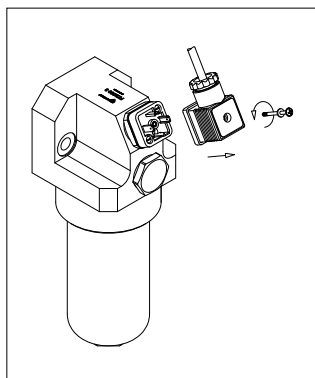

fig. 6
- (Fig. 6) Remove the connector of the differential indicator by unfastening the central screw (only for electrical indicators)
- For the mounting/dismounting of the indicator, please refer to the paragraph "Clogging indicator replacement" above (Fig. 6÷9)